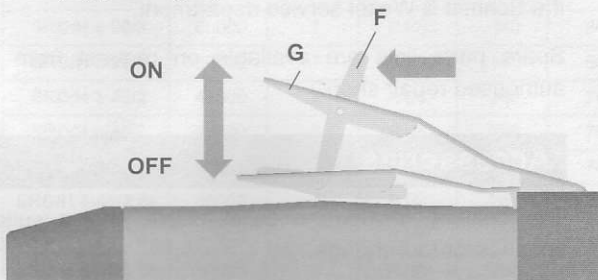

Fig. 4: Releasing lever valve
Release the lever valve (F) and press down the valve lever (G) (see Fig. 4).